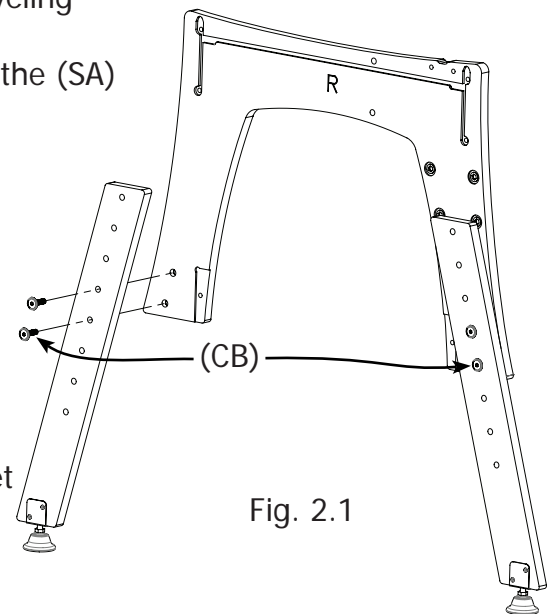

Fig. 2.1
Step 2.1: Secure Angled Height Adjustable Legs to the lower backside of each frame end using (CB) M8 x 30mm Connector Bolts as shown in Fig. 2.1